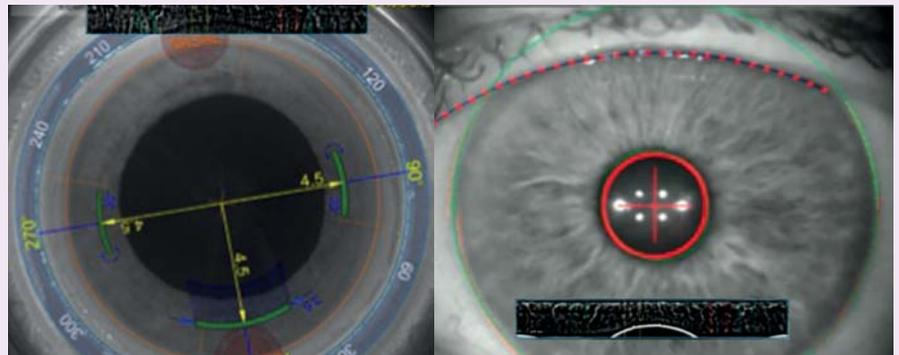

Figure 3. After docking the patient, iris registration ensures all procedures are performed at the appropriate axis – without manually marking the eye.
Figure 3. In vitro lens cell migration assays showed that the Sharklet (right) micropattern reduces cell migration by 80 percent compared with a smooth surface (left).
First, we tested a number of Sharklet micropatterns in a modified scratch wound assay for their ability to reduce or inhibit human LEC migration relative to a smooth surface control (1). The LECs freely migrated across the smooth surface control, whereas the best performing Sharklet pattern achieved an 80 percent reduction in human LEC migration (Figure 3). The unique discontinuous features that comprise the Sharklet micropattern allow for cells to be precisely guided away from the visual
I think what's really going to set LENSAR with Streamline apart is the fact that it's the only femtosecond laser with iris registration technology (Figure 3). I think it's a key advantage because I have so many patients whose trickiest issue is astigmatism. The iris registration feature allows for automatic adjustment for cyclorotation that vastly improves incision accuracy versus ink marking the eye. Sometimes patients have a small amount of astigmatism – a diopter or so – and the patient or the surgeon may not want to use a toric IOL. Streamline lets me address that – I can treat the astigmatism at the time of surgery by planning arcuate incisions along with the cataract procedure.